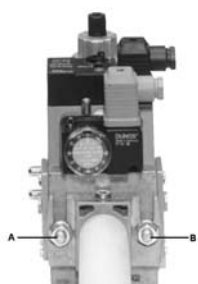

Fig. 17
3. tighten screws A, B, C and D (Fig. 17 - Fig. 18), according to the mounting positions (Fig. 20);